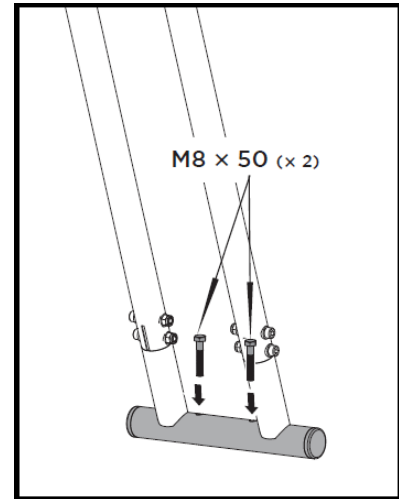

Fig. 12
1. Attach the support leg (14) to a hard, level surface using two M8x50 bolts. Refer to Fig. 12 for details.